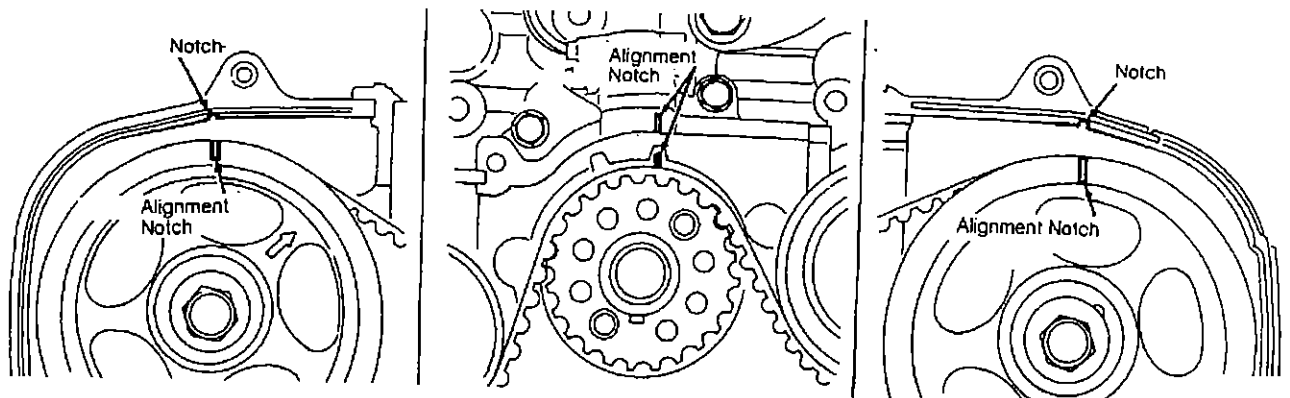
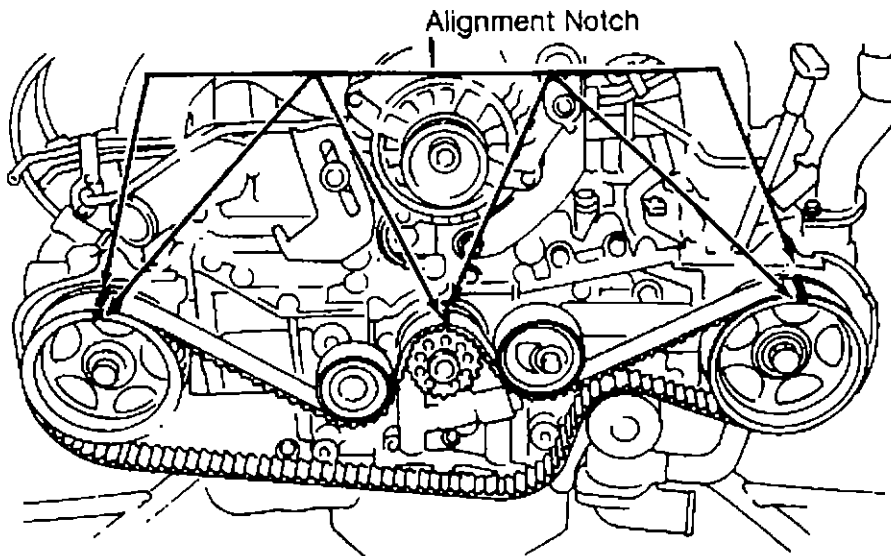

Fig. 3: Aligning Camshaft & Crankshaft Pulley Timing Marks
Fig. 4: Removing & Installing Timing Belt
3) Align crankshaft and camshaft timing notches with corresponding notches on timing cover and engine block. See Fig. 3. Use White paint to mark timing belt in relation to sprocket timing marks. See Fig. 4. Loosen tensioner adjuster mounting bolts. Remove belt idler. Remove belt idler No. 2. Remove timing belt.
4) Ensure marks on timing belt and sprockets align. See Fig. 4. Remove stopper from tension adjuster. Remove rocker covers, and ensure valve lash adjuster does not contain air.